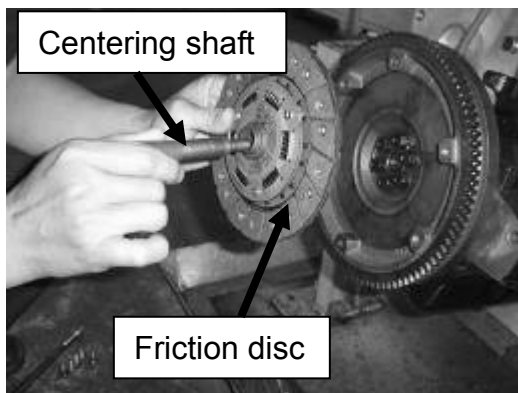
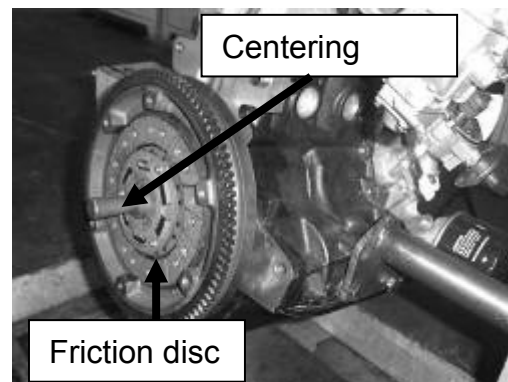

Figure 45
Figure 44
10. Insert the aligning shaft into the hole; align new friction plate to the flywheel of engine (See Figure 44, Figure 45).